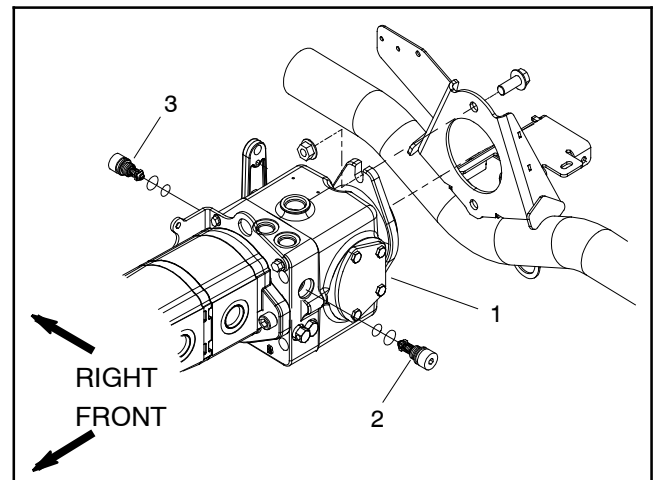

Figure 27
9. If problem occurs in one direction only, interchange the relief valves in the traction pump (Fig. 27) to see if the problem changes to the other direction. Clean or replace valves as necessary. These cartridge type valves are factory set, and are not adjustable. If relief valves are in good condition, traction pump and/or wheel motors should be suspected of wear and inefficiency.